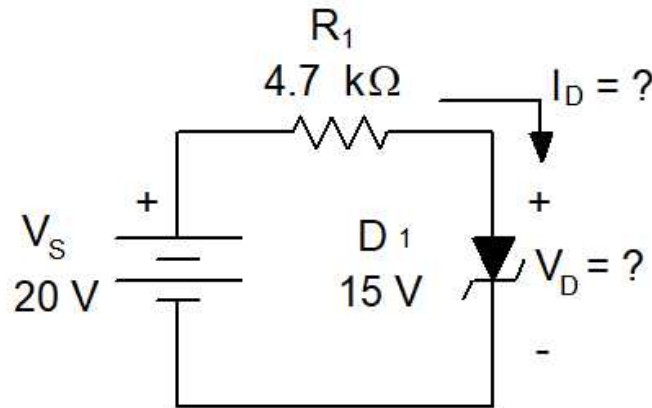

Figure 2-48.
- 2-37. A 15-volt zener diode is used in the circuit given in Fig. 2-48. V_S is 20 V and R_I is a 4.7-k Ω unit. Find I_D and V_D .